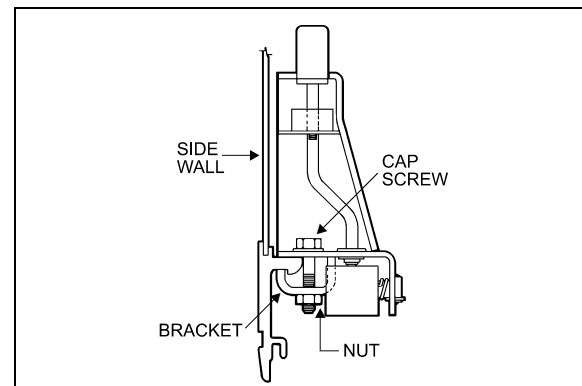

FIGURE 47: ARMREST
4. Remove 2 cap screws, nuts, and washers holding seat frame to side wall and retain the 2 holding brackets. See figure 47.